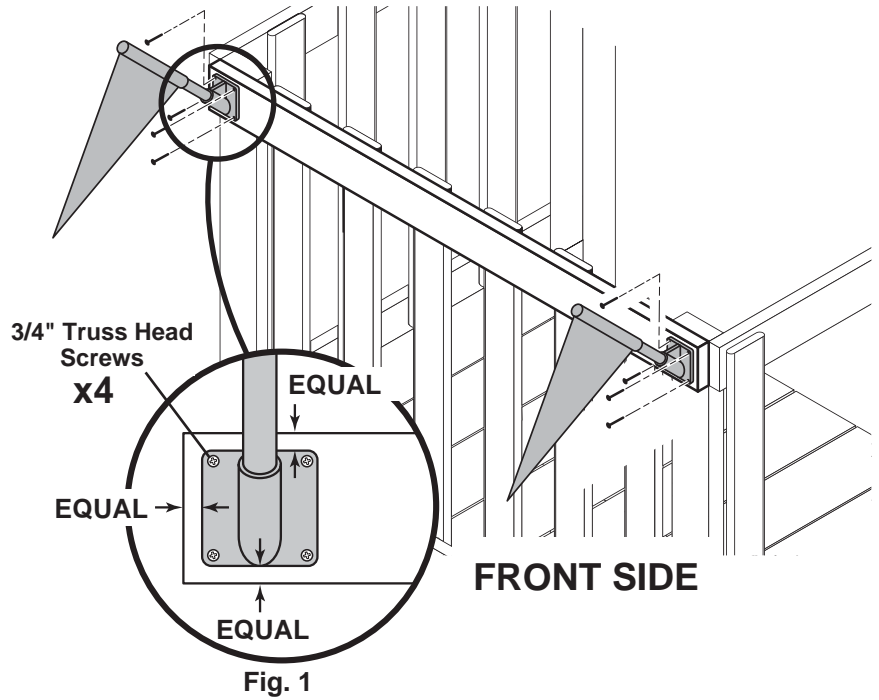

Fig. 1
Feed top of Climbing Rope through front of Upper Rail ( **2526-CC** ) and tie a double knot on the back side ( **Fig. 1** ).
Feed lower end of Climbing Rope through hole in Rock Wall board ( **2527-CC** ) and tie a double knot on the back side ( **Fig. 1** ).
- 2 Locate flag base EQUALLY from top, bottom and end of upper top rail (Fig. 1).